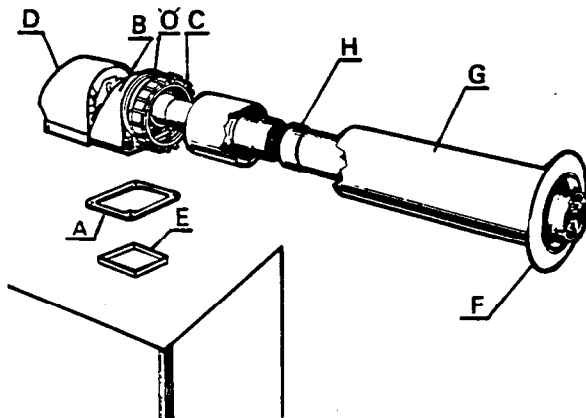
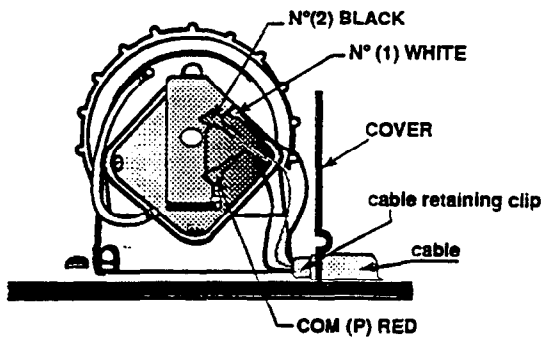

Fig. 25
Fig. 26
- d) Peel off protective paper from adhesive side of cork gasket (A) place on mating side of flue turret (B) lining up with four clearance holes, press together.
- e) Assemble second part of flue duct (H), push fit.
- f) Slide locking ring (C) and 'O' ring over plastic air duct.
- g) Slide air duct over flue duct, engage end of flue duct into terminal and locate air duct into turret (B).
- h) Slide 'O' ring along air duct (C), to contact with the face of the turret (B). Locate lugs on locking ring (C) between lugs on flue turret (B). Push together and turn to lock.
- j) Position square channelled rubber gasket (E) on the flue hood outlet of the boiler, channel facing downwards.
- k) Pass the flue assembly through the wall and seat turret (B), onto the flue outlet, secure with 4 screws provided.
- l) Fit wall plate (F) provided with mastic sealing ring over air duct to structure.
- n) Do not fit plastic turret cover 'D' until electrical connections to the pressure switch have been made (see fig.26).
- b) Push spade terminals onto tags COM (P) No (1) and No (2)
- c) Fit turret cover (D) (fig.25) ensuring that both the air tube and cables are not trapped. Ensure that the cable retaining clip is positioned inside of the cover as shown, (see fig. 26).